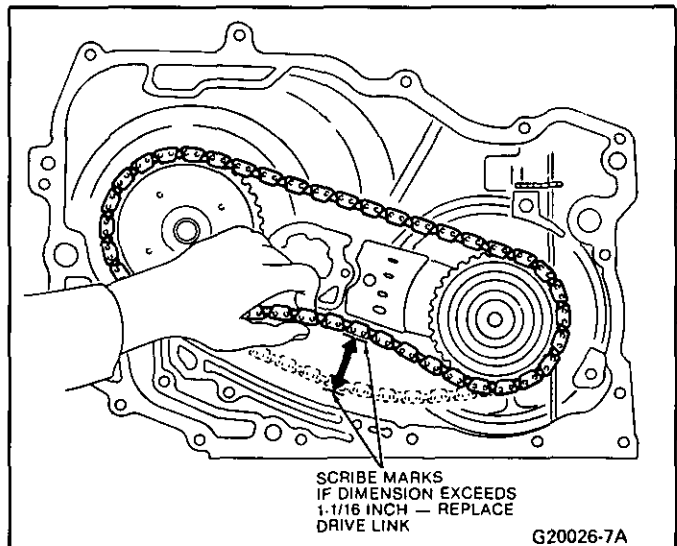

Fig. 13 Checking Drive Link (Chain) Wear
2. Midway between the sprockets and at right angles to the chain, push the slack strand (bottom strand) of the chain until all slack is removed and mark with crayon on the bottom side of the chain link. See Figure 13.